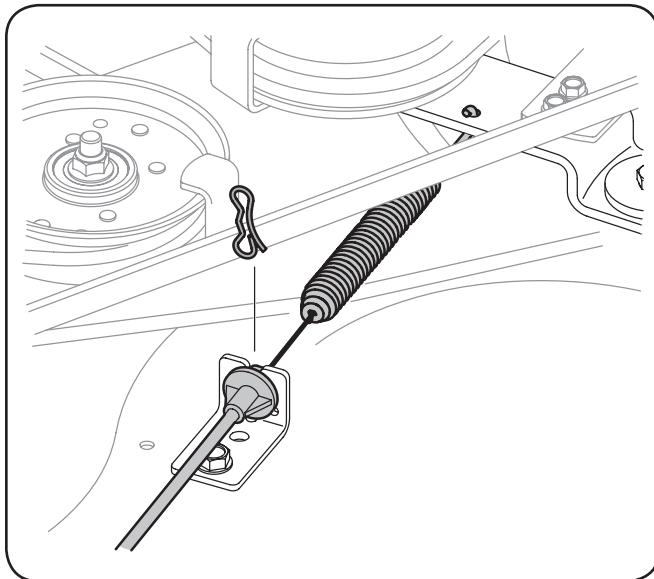

Figure 7-4
- Carefully remove the deck engage cable from the rear of the cutting deck by removing the bow-tie cotter clip that secures it. Remove the spring from the deck idler bracket. See Fig. 7-4.
- c. Reattach the deck engage cable. See Fig. 7-4.